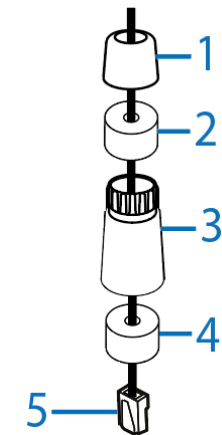

Figure 5
2. Insert the LAN cable (5) (Figure 5) through the weatherproof cap cover (1) (Figure 5), one of the rubber cable inserts (2) (Figure 5), the weatherproof cap (3) (Figure 5) and the other rubber insert (4) (Figure 5).